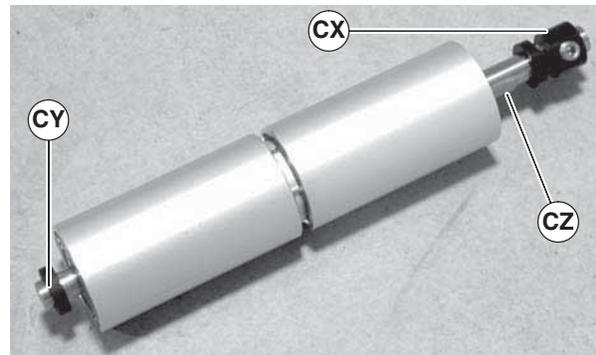

Figure 86
8. Remove the tension pulley locking collar (Figure 86, item CX), spacer (CY) and pulley shaft (CZ) from the roller pulley shaft assembly.